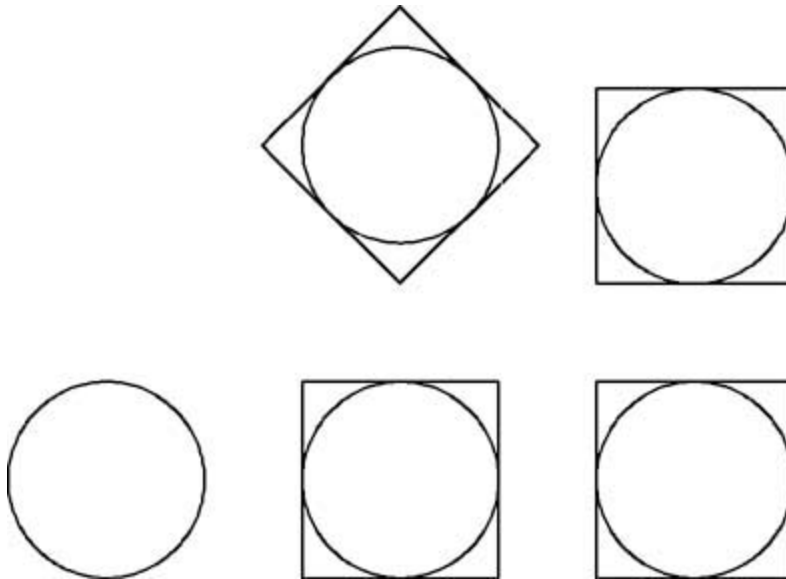

Figure 4-18
- 8** Save your drawing. Your drawing should resemble Figure 4-18.